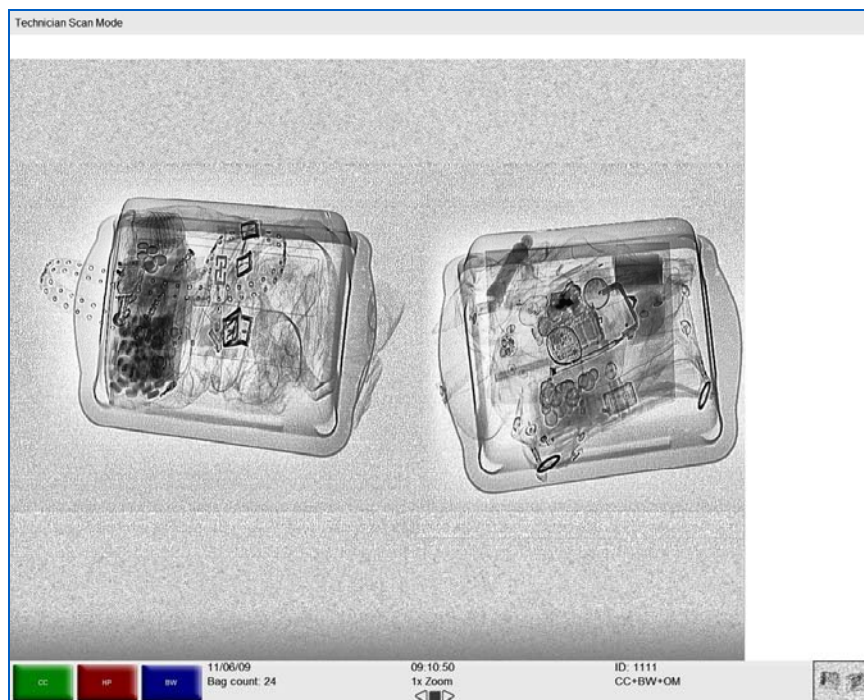

Figure 230: Scanned Image
2. Apply one or more image processing functions to the image. In Figure 230, for example, the operator has applied CC, BW and OM to the image